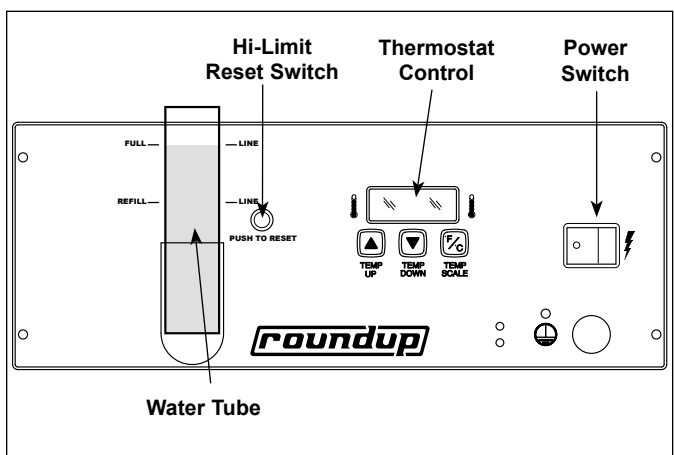

Figure 3. SDC-500 Control Panel
**NOTE: The front Water Tube is also used to indicate the unit water level. Water should always be visible in the tube and should not exceed the "MAX" line (Figure 3)**